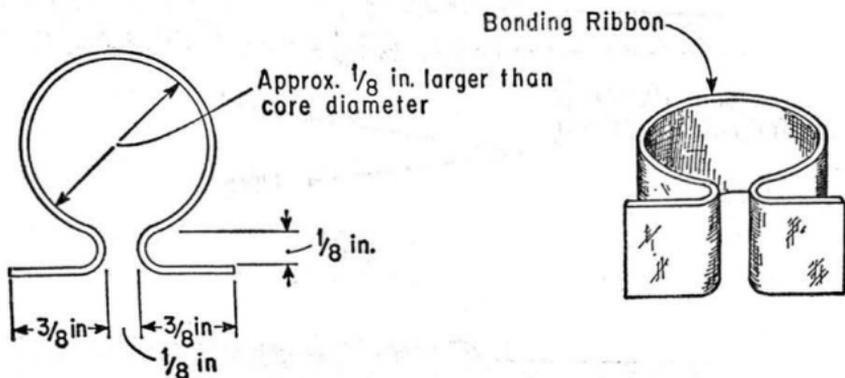

Fig. 4
2.04 Make inner clamps from a strip of bonding ribbon as illustrated in Fig. 4. The diameter of the clamp when closed should be slightly larger than the diameter of the wrapped core to prevent crushing of the conductor insulation when the clamp is tightened.